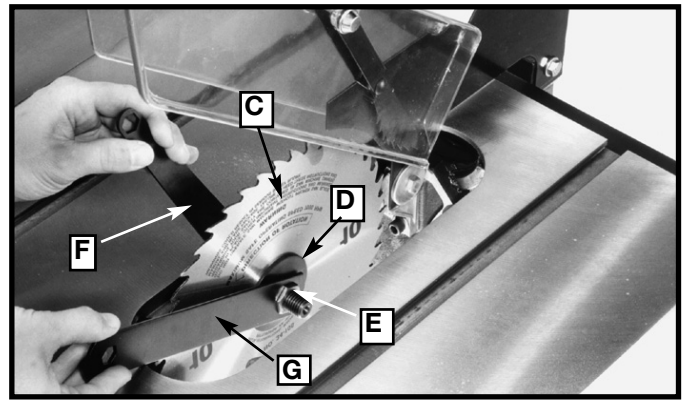
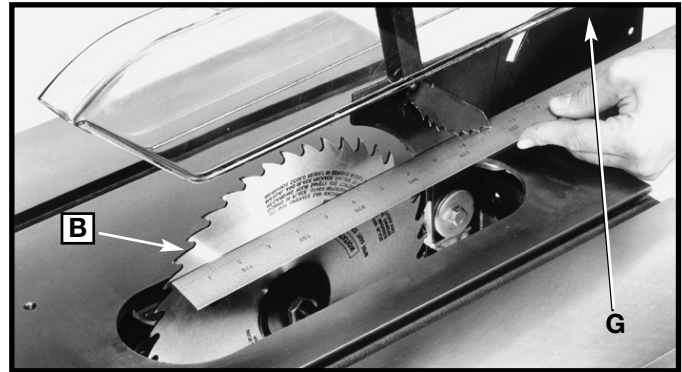
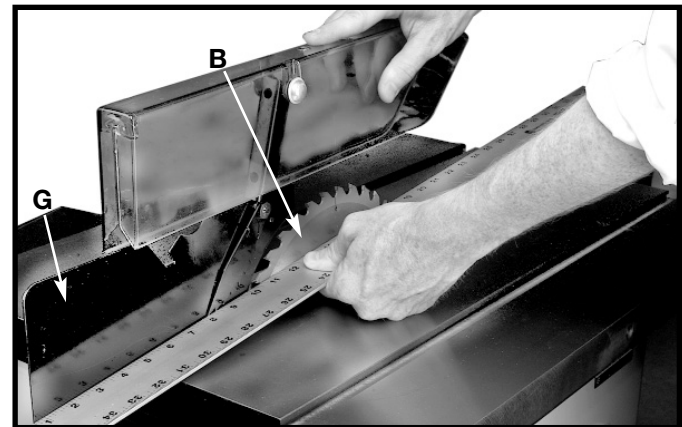
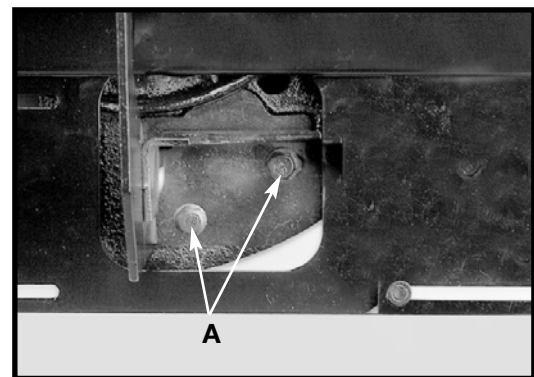

Fig. 23
Fig. 24
Fig. 25
Fig. 25A
1. Raise the saw blade arbor to its maximum height. Assemble the saw blade (C) Fig. 23 to the saw arbor making sure the teeth of the blade point down towards the front of the table, as shown in Fig. 23. Assemble the flange (D) and arbor nut (E) to the saw arbor and tighten arbor nut (E) as far as possible by hand, being sure that the saw blade is against the inner blade flange.
2. Place the open end wrench (F) Fig. 23 on the flats on the saw arbor to keep the arbor from turning and tighten arbor nut (E) using the remaining wrench (G) Fig. 24, by turning the nut counterclockwise.
Use a straight edge to check to see if the saw blade (B) is aligned with the rear of the splitter (G) in Figs. 24 and 25. If alignment is necessary, loosen the screws (A) Fig. 25A which hold the splitter bracket to the rear trunnion. Align splitter (G) Fig. 25 with the saw blade, and tighten two bolts (A) Fig. 25A.